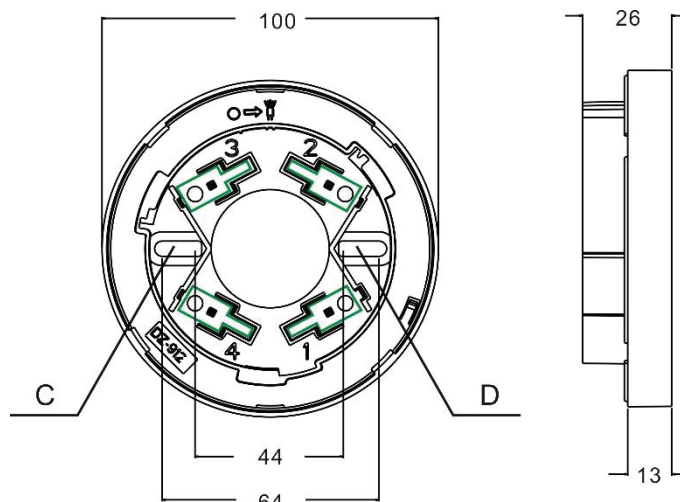

Fig.6(unit:mm)
A self-contained complete base is necessary during the installation of a detector. As shown in Fig.6, the model, the external dimensions, the mounting hole diameter and the mounting hole spacing of the base are DZ-912, 100mm×26.4mm (diameter×thickness), 4.5mm and 44.5mm ~ 64.3mm respectively.
2. Use two M4 screws to fix the matched mounting base on the designated position via the mounting holes A and B shown in Fig.6 as instructed in the construction drawing and make sure the matched mounting base has been firmly installed.